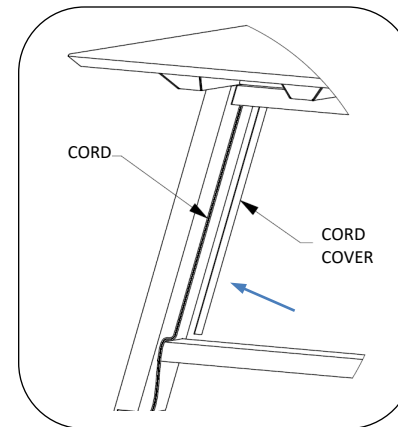

Fig. 5 – attach cord cover
7. Continue running cord down table support leg. Remove backing from glazing adhesive on cord cover and secure cover to table leg, see Fig. 5.